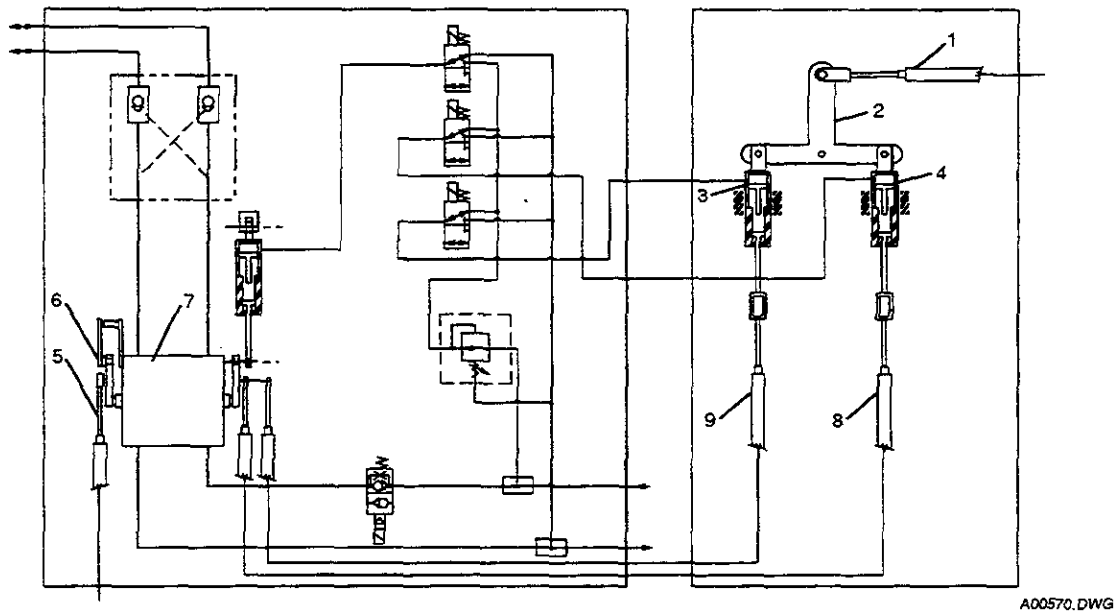

FIGURE 6.6 THREE MODE STEERING ADJUSTMENTS
- (c) Axle cable adjustment on three-mode steering system may be performed, as follows (Figure 6.6)